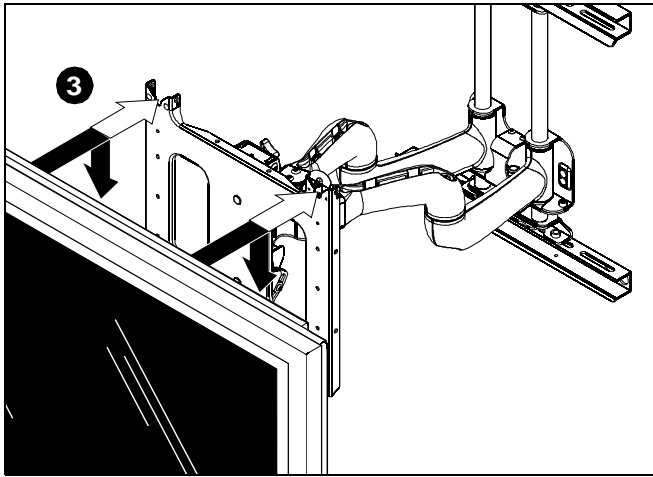

Figure 6
3. While supporting both sides of display, align four mounting buttons on display or interface bracket with four mounting holes in head assembly. (See Figures 6 and 7)
4. Lower display into place listening for audible "click" to ensure recessed area of mounting buttons are properly seated in lower area of mounting holes and ClickConnect mechanism has engaged. (See Figures 6 and 7)